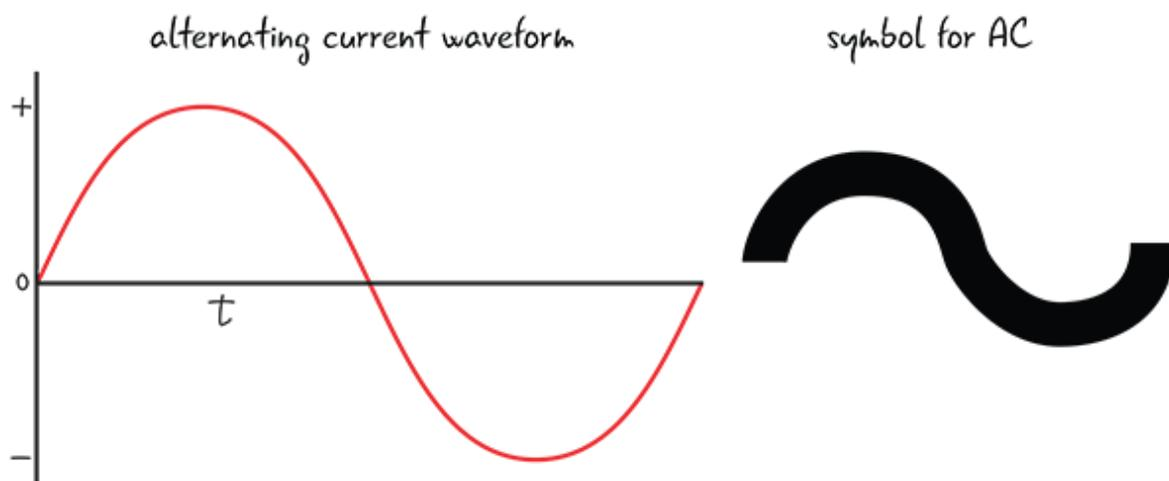

FIGURE 5-10: Alternating current
There are two different types of electrical flow: alternating current (AC) and direct current (DC). The electricity that comes out of your wall socket is AC, whereas our Arduino and many small electronic projects and components use DC. In alternating current, represented by the drawing in Figure 5-10, the flow of electricity changes direction. In direct current there is only one direction to the flow.